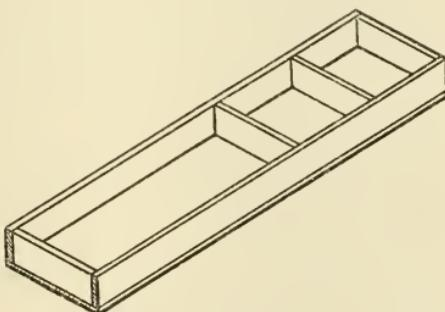

FIG. 127.—TRAY OF TOOL CHEST.
10. Making trays. — The two trays are for the purpose of holding the smaller tools, such as bits, files, scrapers, and screwdrivers. They are partitioned off as shown in Fig. 127. The top tray should be $2' 4\frac{1}{2}''$ long and $8''$ wide, and $3''$ deep (outside measurements), and made of soft wood $\frac{1}{2}''$ thick. The lower tray should be $1''$ shorter and the same width and depth. Nail on the sides to the ends and the partitions, then nail on the bottom.